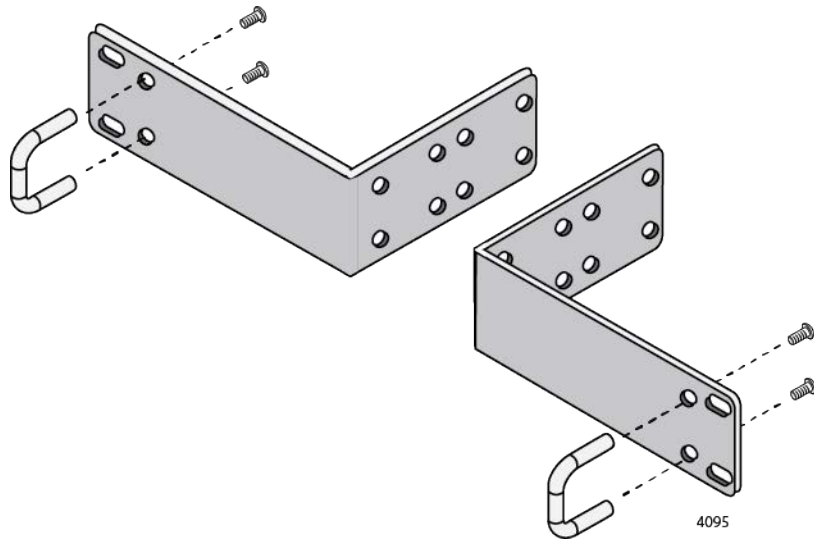

Figure 40. Attaching the Handles to the AT-RKMT-J14 Brackets
1. Attach the two handles to the AT-RKMT-J14 Brackets using the four M3x6mm screws included with the switch. Refer to Figure 40 on page 96.